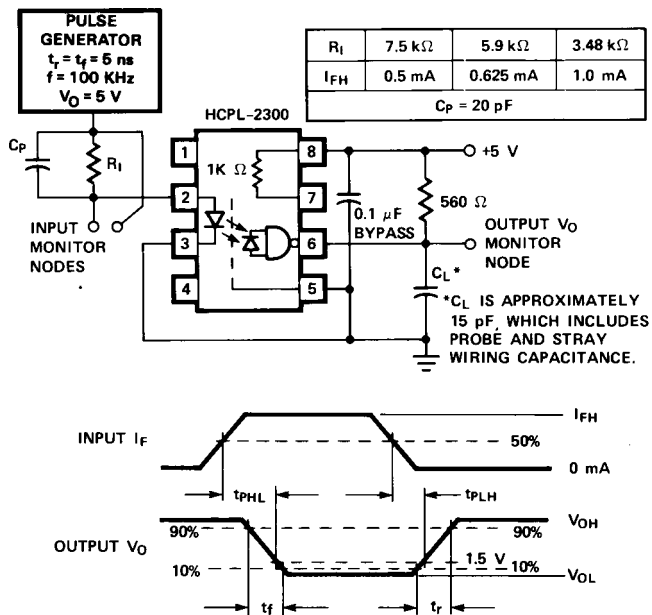

Figure 8. Test Circuit for  $t_{pHL}$ ,  $t_{pLH}$ ,  $t_r$ , and  $t_f$ .
8.  $C_P$  is the peaking capacitance. Refer to test circuit in Figure 8.